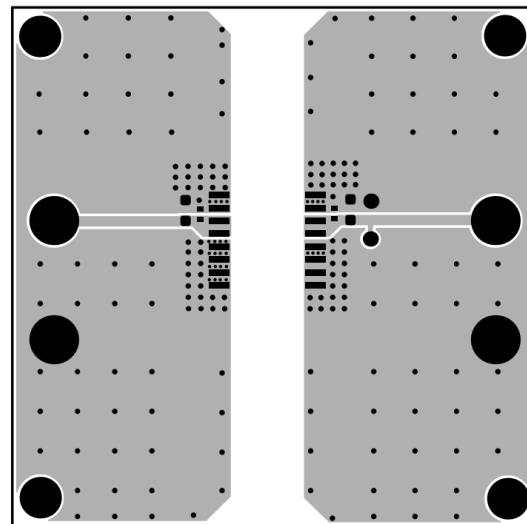

Figure 2: Top Layer
**EVALUATION BOARD SCHEMATIC****Figure 2: Evaluation Board Schematic**